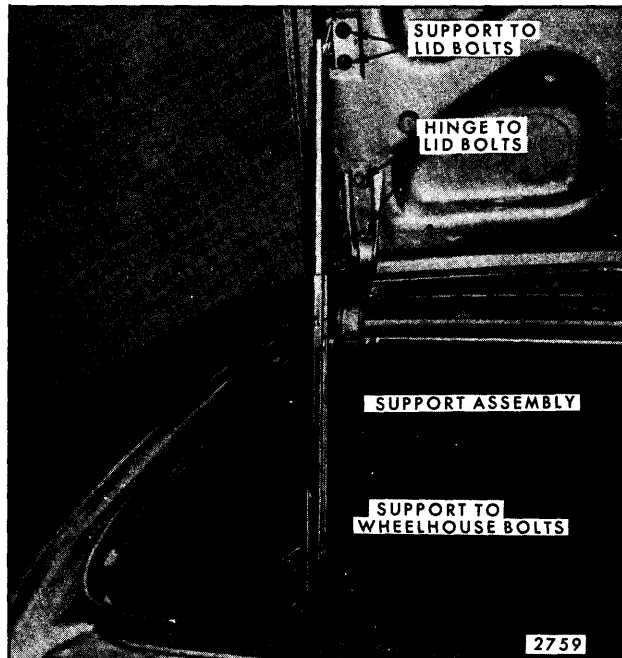

Fig. 8-3—Engine Compartment Lid Attachments - All "Z" Styles
3. With the aid of a helper, holding lid in open position, remove lid support attaching bolts from lid (see Fig. 8-3).